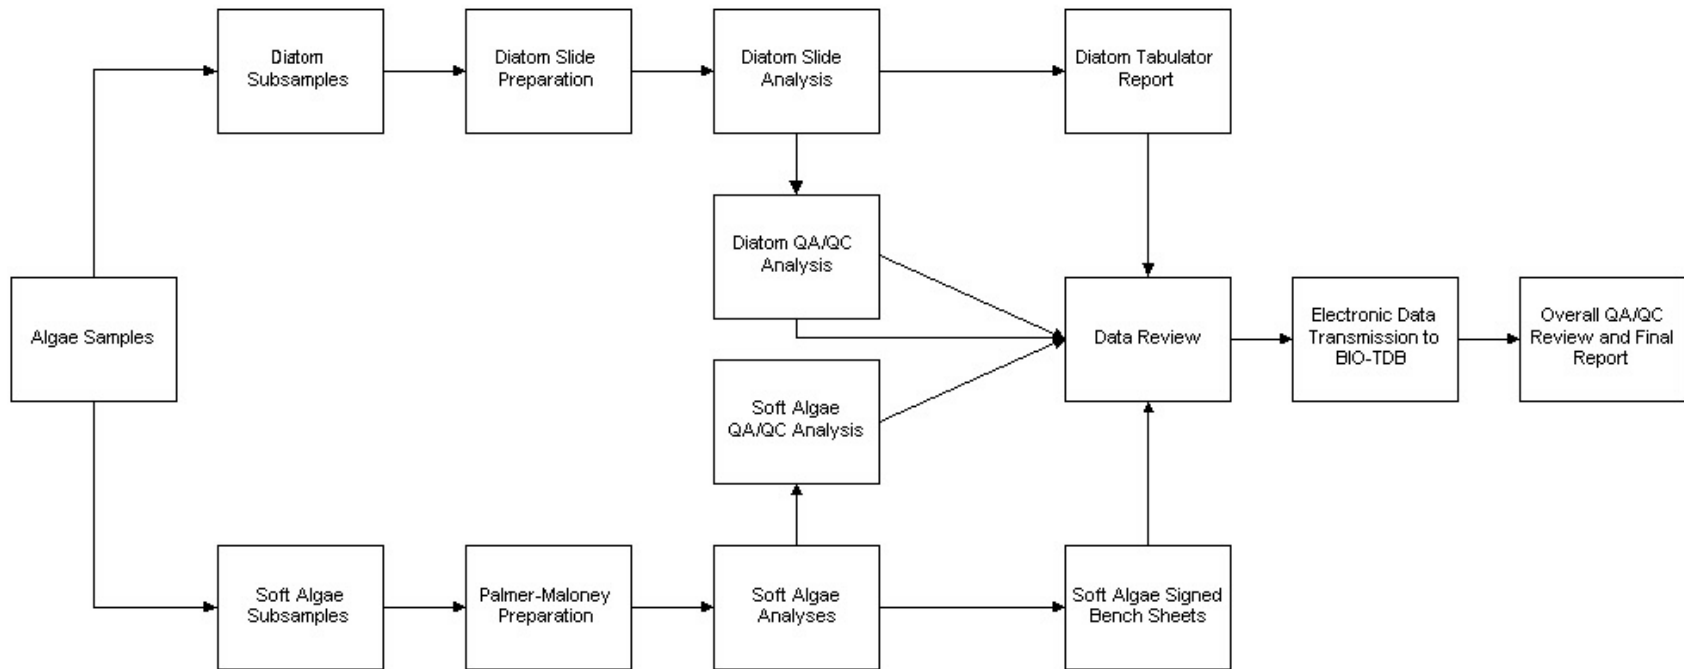

Figure 1. Sample process and analytical flow.
1.1. There are numerous stages in the analysis of samples and reporting of data in the PCER Phycology Section. For example, see Figure 1 “Sample Analysis and Data Flow,” depicting stages in analysis of U.S. Geological Survey’s (USGS) National Water-Quality Assessment Program (NAWQA) samples. It is often important to know, for a given set of samples, which stages have been completed—What is the status of samples in the overall sample analysis process? This information is necessary to estimate realistic delivery dates, have sample data complete by these dates, revise scheduling if necessary, and/or gather requested information at any given time. This protocol describes the systems in place to check the status of sample analysis from receipt of the samples at ANSP to data review.
- 5.1.1. **Run computer query.** Run the Microsoft Access query “Data Entry Check 0: Sample Tracking” in the PHYCLGY database. This query reports values in key fields of tables that contain data on specific stages in the sample preparation and analysis process (e.g., see Figure 1). The fields included in the query will change as tracking procedures evolve. They are currently as follows: